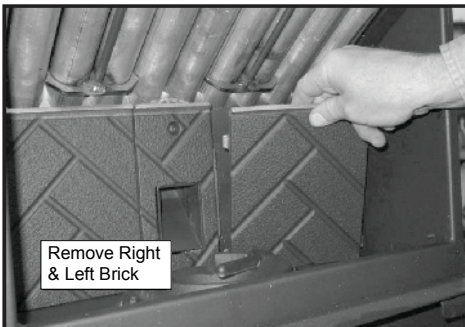

Figure 23.2
3. The top baffle must be removed before you can remove the right and left brick. Remove the right brick by holding top lip of brick and lifting up, then push outside edge back. Slide brick to the right until it is flush with the firebox. Rotate the inside edge of the brick forward and remove brick. Repeat for left brick. **Figure 23.2.**